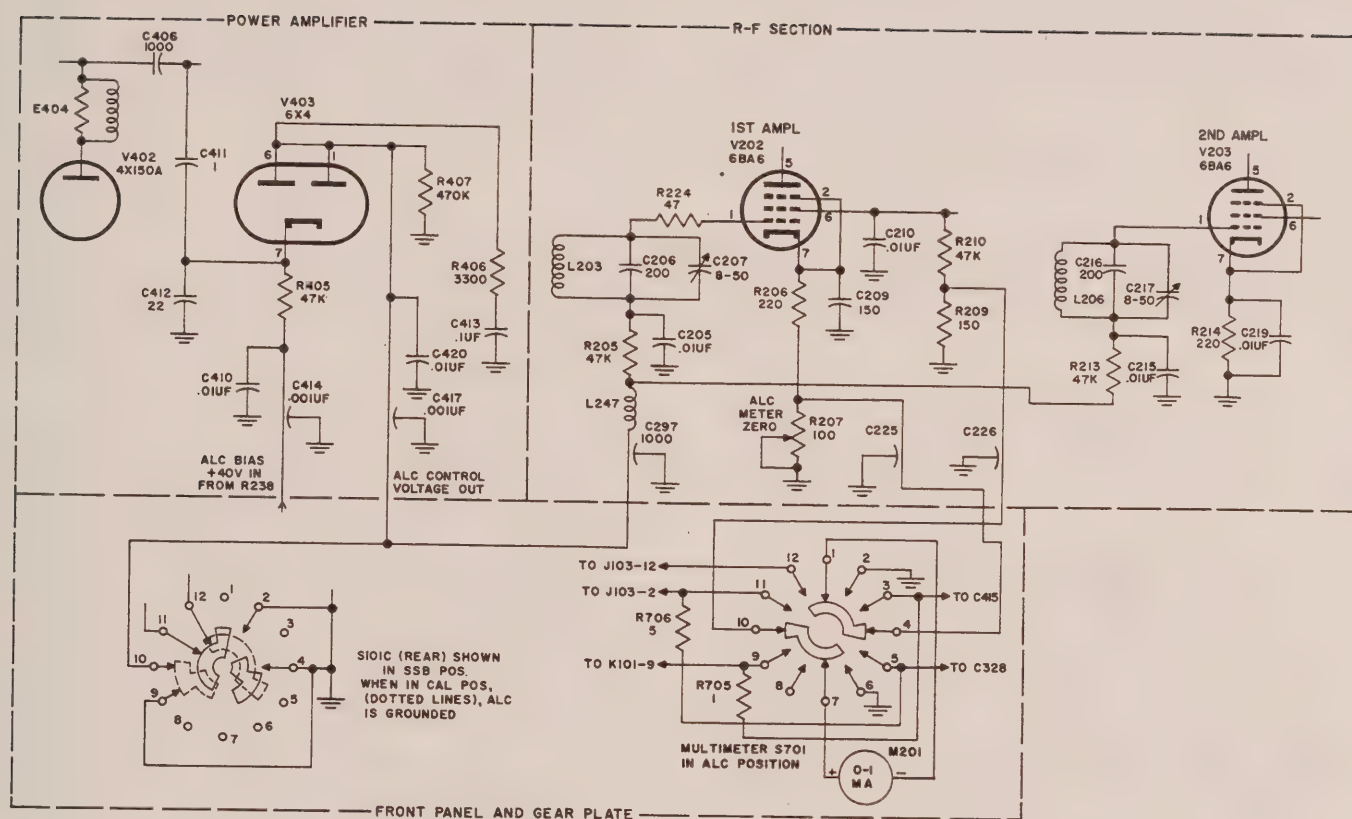

Figure 4-17. Automatic Load Control Circuits, Simplified Schematic Diagram
The simplified schematic diagram of figure 4-17 will assist in understanding the circuitry and operational theory of ALC.
c. ALC POSITION. The ALC d-c control voltage is fed into amplifiers V202 and V203 through L247 to the control grids. (See figure 4-17.) The ALC meter is connected through MULTIMETER switch S701 across the V202 cathode to the screen grid through R210. The purpose of the meter connected in this manner is to measure the amount of Automatic Load Control voltage in decibels.